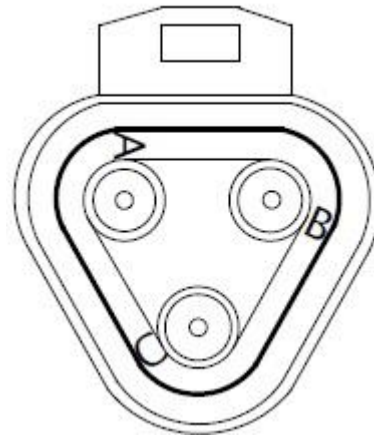

Figure 121
4. The sensor has three wires connected to the sensor. Figure 121
- Power wire (this is combine sensor voltage). Red wire (C)
- A ground wire. Black wire (A)
- A signal wire which sends voltage from the sensor to the controller. Yellow wire (B)